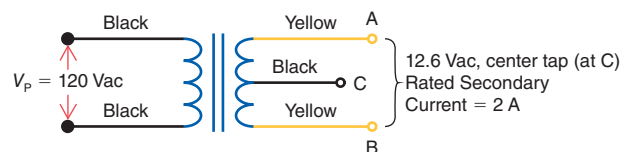

Figure 18-33
- 18.23** Refer to the transformer in Fig. 18-33. How much voltage would a DMM measure across the following secondary leads if the secondary current is 2 A?
- 18.24** How much is the primary current, I_p , in Fig. 18-33 if the secondary current is 2 A?